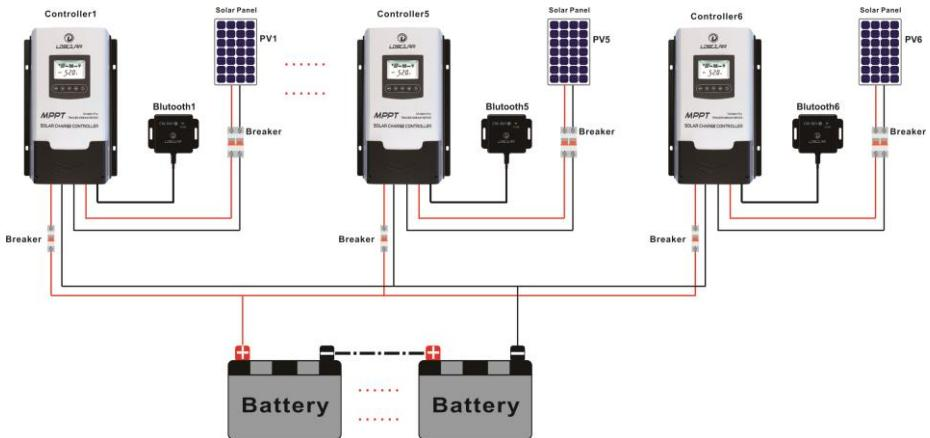

Figure 2-2 Schematic of wiring diagram
Connect the system in the order of ①battery ②PV array in accordance with Figure 2-2, "Schematic Wiring Diagram". and disconnect the system in the reverse order ②①
①Single controller
②Connection in parallel